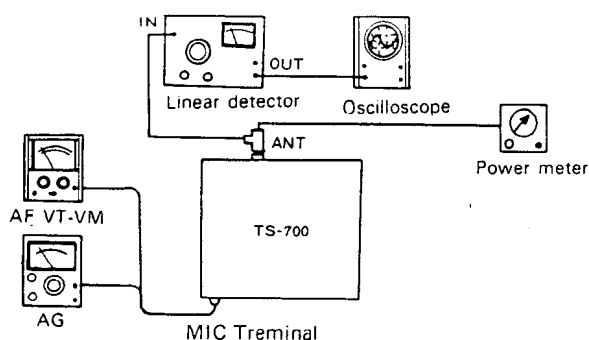

Fig. 26
- 4) Referring to Fig. 26, adjust to obtain an AG output of 2 mV and 1.5 kHz.
- 6) As shown in Fig. 26, connect the AF VTVM and audio generator (AG) to the MIC terminal.